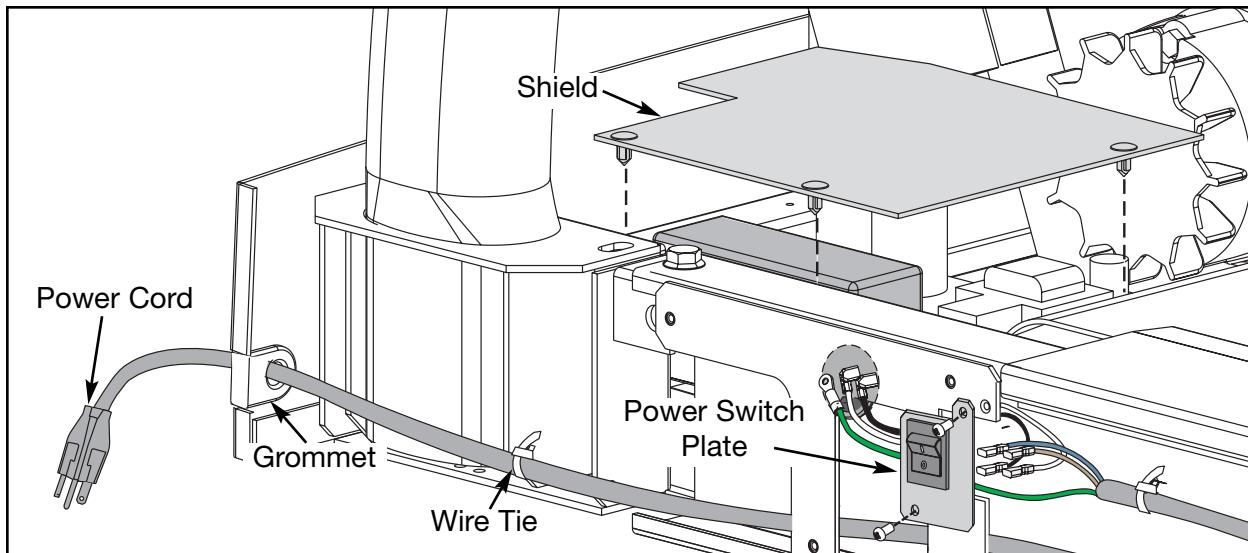

Figure 22
A. Remove the old power cord and discard the power cord (and power switch if applicable). See Figure 22.